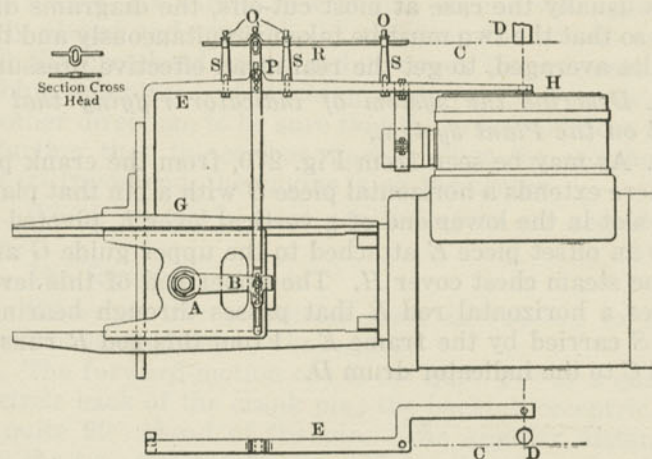

Fig. 270. Indicator Attachments.
A. As may be seen from Fig. 270, from the crank pin *A* there extends a horizontal piece *B* with a pin that plays in a slot in the lower end of a vertical lever *L*, pivoted at *P* to an offset piece *E* attached to the upper guide *G* and to the steam chest cover *H*. The upper end of this lever drives a horizontal rod *R* that passes through bearings *S S S* carried by the frame *E*. From this rod *R* runs a cord *C* to the indicator drum *D*.